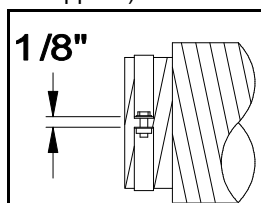

Figure 9
8. Tighten the inner pipe clamp bolts until both clamp halves are within 1/8" of each other at each end (Figure 9).